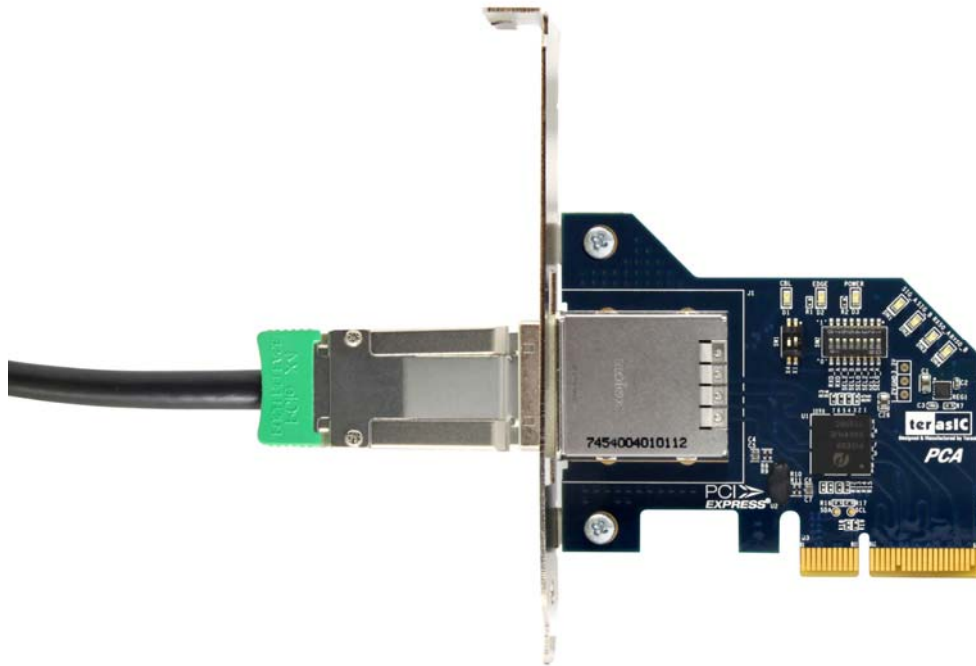

Figure 3-4 PCIe Cable connects PCA connector
**Figure 3-4** as show the PCIe Cable connects PCA connector